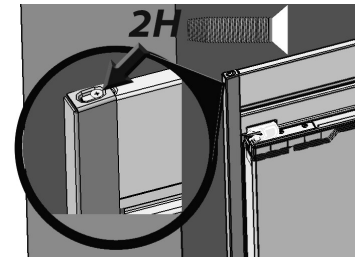

Fig. 14
10. a. Place the Side Trims in position by dropping them over the placement screw as seen in Fig. 9 and fitting them over the Top Trim (Fig. 14).
- b. Fasten a 2H screw to each side of the Top Trim (Fig. 14).